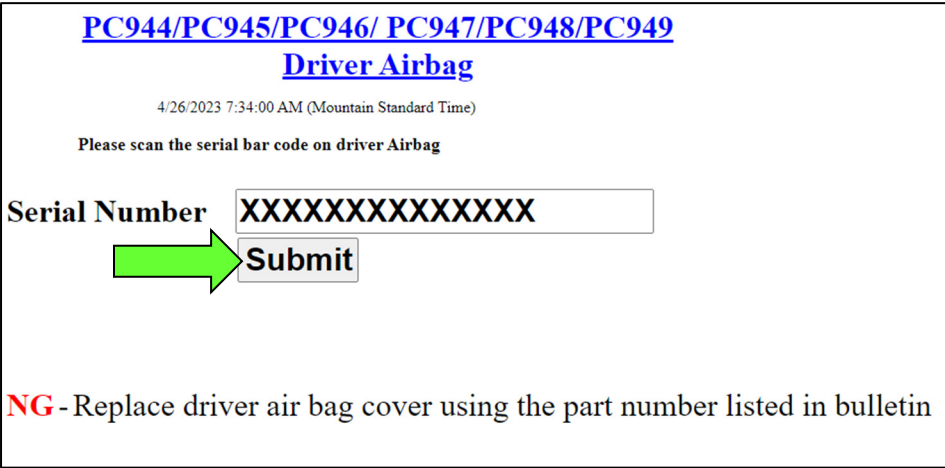

Figure 5
- If the serial number result is **NG** (Figure 5), continue to step 13 on page 6 to **Remove Driver Air Bag Module Cover**.